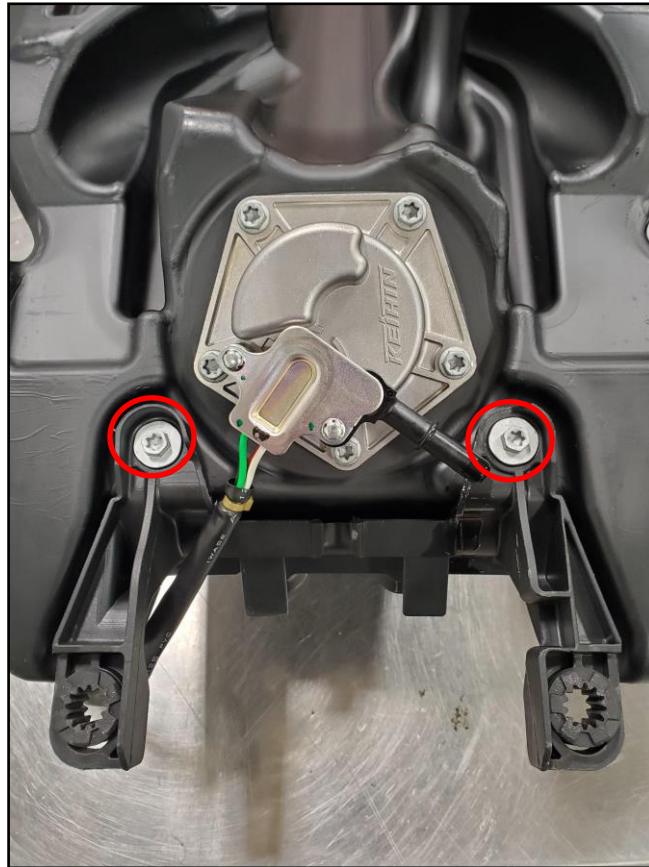

Fig. 5
9. Install the rear tank mounting bracket on the new updated tank and torque the bolts to 6 Nm (Figure 5).